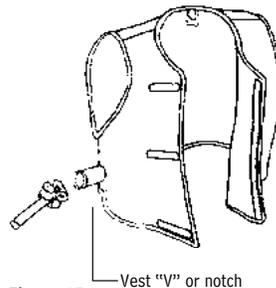

Figure 15
2. Install the small nylon clamp over the air entry sleeve and cooling vest connector hose. Engage the clamp locks and squeeze until tight (Figure 15).